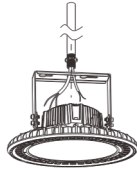

Figure 9
2. Make the corresponding holes on the bracket through the 1/2 "NPT. (Figure 9)